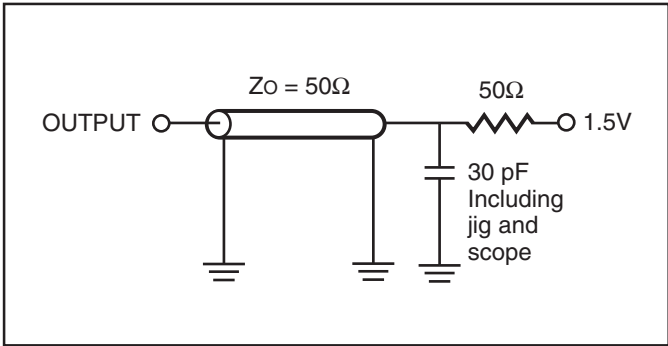

Figure 1.
1. Test conditions assume signal transition times of 3 ns or less, timing reference levels of 1.5V, input pulse levels of 0V to 3.0V and output loading specified in Figure 1.
1. Test conditions assume signal transition times of 1.5 ns or less, timing reference levels of 1.25V, input pulse levels of 0.4V to V_{DD}-0.3V and output loading specified in Figure 1.